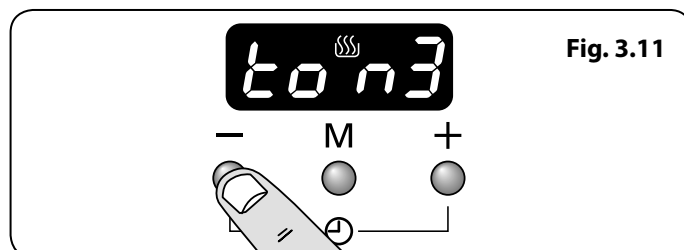

Fig. 3.11
2. To select the tone press the [-] button until desired tone is reached (**Fig. 3.11**).